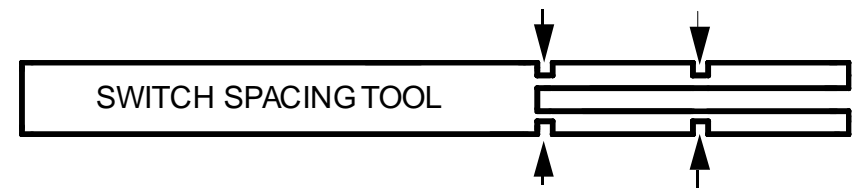

Figure 5-1
- Locate the Spacer Set PC board (Figure 5-1). Using long-nose pliers, carefully break out the pushbutton switch spacing tool and the four backlight LED spacers. Break the material only at the four indicated points. **Note:** The switch spacing tool doubles as the PC board for the RF probe, which will be assembled later.